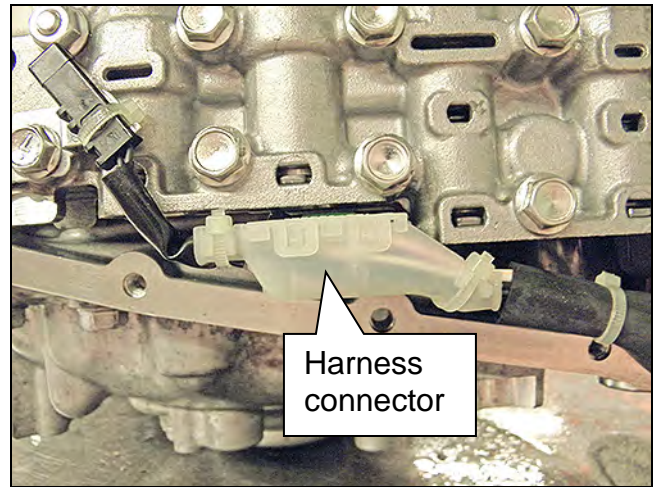

Figure 25
5. Connect the electrical harness connector (Figure 25).